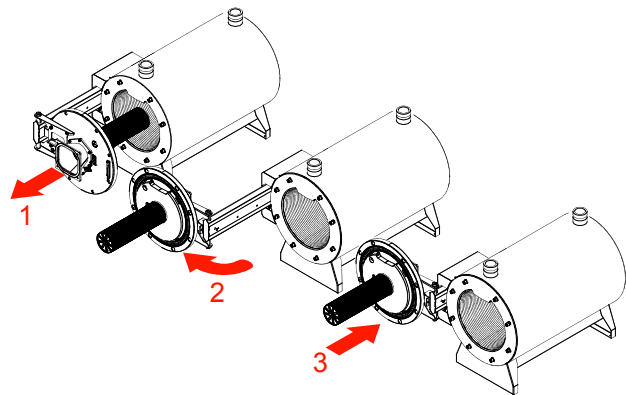

Figure 34: Burner Door Opening
- d. This unit is equipped with a sliding mechanism shown in Figure 34. Position (1) burner assembly slides out of the combustion chamber, (2) rotate away from the combustion chamber and (3) sliding back to allow full access to the combustion chamber for inspection and service.